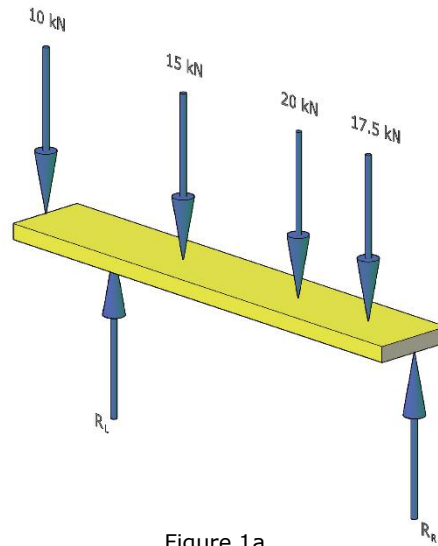

Figure 1a
- a) Using a scale of 10 mm representing 1 m, draw the diagram shown in Figure 1a. Write neatly the capital letters between the loads and complete the diagram by using Bow's notation. (2)
- b) Draw a vector diagram using a scale of 10 mm representing 5 kN and include a polar diagram. Use a suitable distance for the polar diagram. (3)
- c) Determine graphically, the magnitude of the support reactions on the left- and right-hand side of the beam. State the magnitude of each reaction, showing the necessary calculations. (4)
- d) Draw a shear force diagram. (3)
- e) Determine the position along the beam where the bending moment is zero. (1)